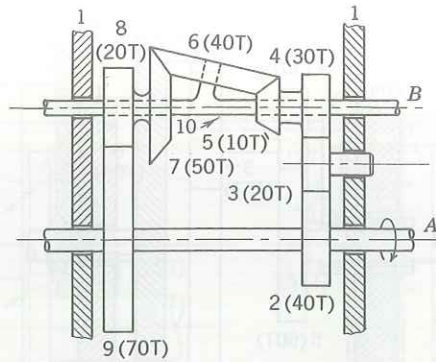

FIGURE 7.44
7.31. In Fig. 7.44, shaft A turns at 100 rpm in the direction shown. Calculate the speed of shaft B and give its direction of rotation.
7.48. Figure 7.44 shows a planetary train in which shaft *A* turns at 100 rpm in the direction shown and transmits 20 hp to gear 2. Determine the power circulating in the branch control circuit and make a schematic power flow diagram. Arm 10 is the output shaft.